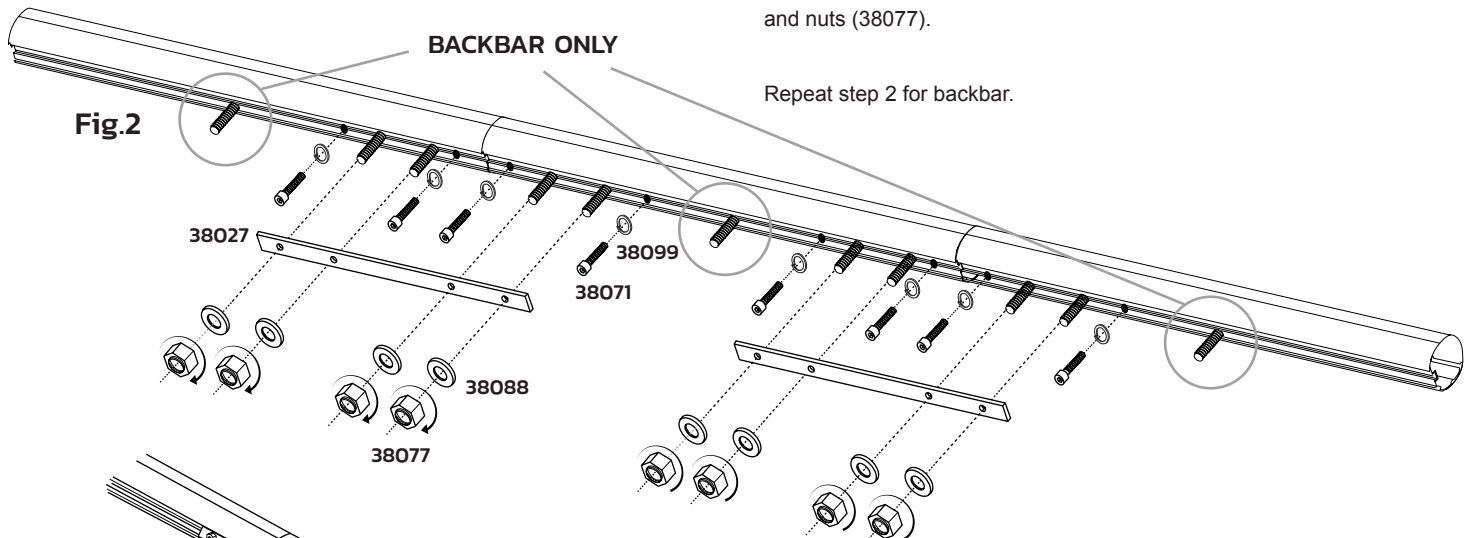

Fig.2
STEP 2 - Crossbar/Backbar (Fig. 2)
Screw M8 hex bolt (38701) through crossbar into connector (37934) ensuring the M8 spring washer (38099) is in place as per diagram (Fig.2).